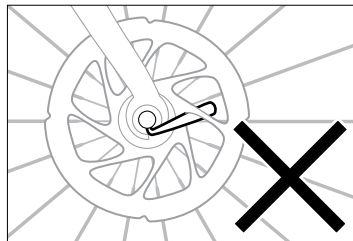

Figure 2.4
2. Tighten the quick-release making sure that it is properly positioned within the dropouts and closed. If the quick-release is not closed correctly (in-line with the chain stay), the lever can catch in a disc brake rotor (Figure 2.4).